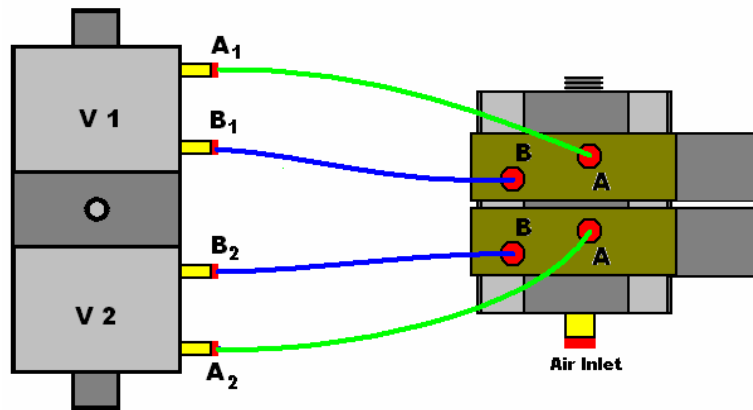

Figure 3-2
- Figure 3-2, below, shows the correct connections for “normally closed” operation for the CV-310 Valve with two solenoid pilot valves. For both valves, fluid can flow in either direction.